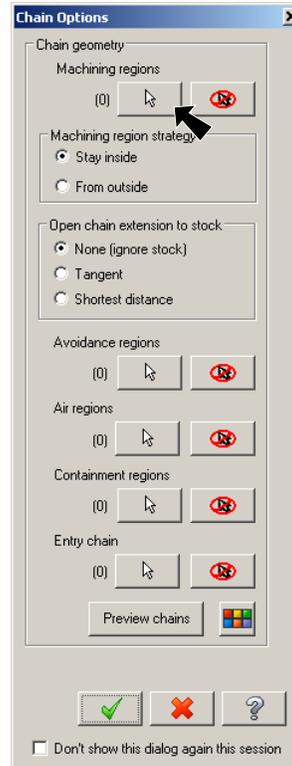

Fig. 59
Step 3. Select **Machining regions**  button in Chain Options dialog box, **Fig. 59.**